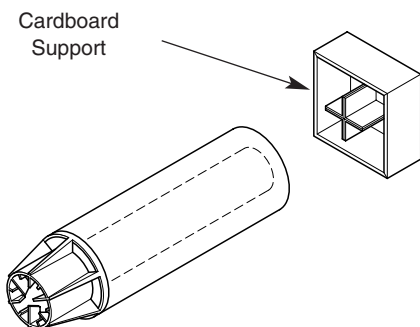

Fig. 28
3. The cardboard support should be installed onto the flue tubes to ensure the assembly is supported during cutting (Fig. 28 & 29).